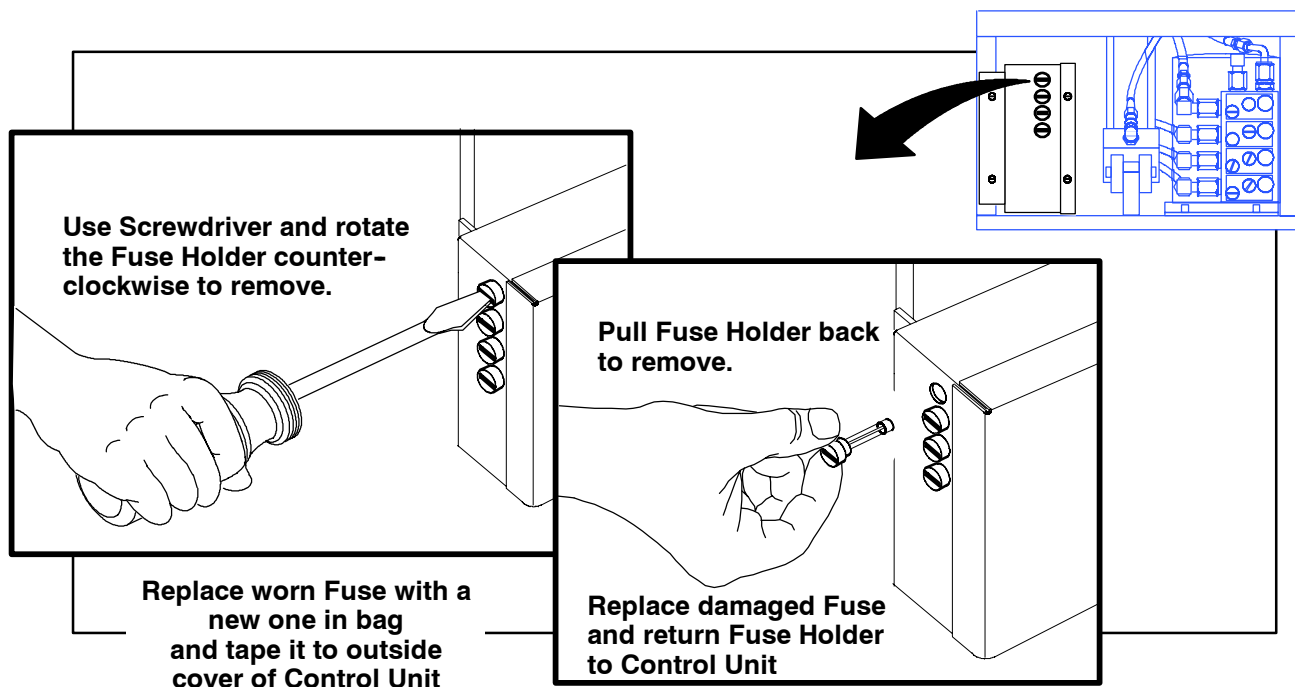

Figure 3-4. Replacing Fuses (Chairs with s/n 1548 and above)
The fuses found in the two top fuse holders are for chair operation and the fuses found in the bottom two fuse holders are for the AC Receptacle located on the back of the chair. To replace the fuses, refer to Figure 3-4 and proceed as follows:
2. Rotate the Fuse Holder counter-clockwise. See Figure 3-4. The Fuse Holder has a spring-loaded mechanism and should pull right out.